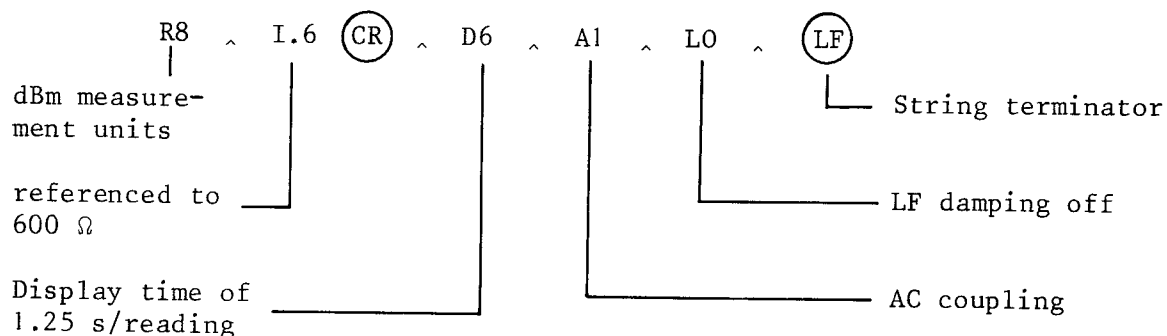

Fig. 5 Typical program string
28. When the instrument has been addressed to listen as part of the routine GPIB protocol, it can be set to the required operating conditions by a string of program codes terminated by a line feed (LF) (usually accompanied by End or Identify EOI) as shown in Fig. 5. In this and subsequent examples the symbol '^' indicates a space.